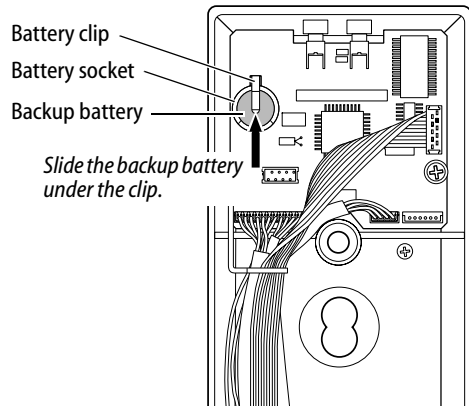

Figure 5 Installing the backup battery
- 1 Slide the new backup battery under the clip and into position in the battery socket (Figure 5).